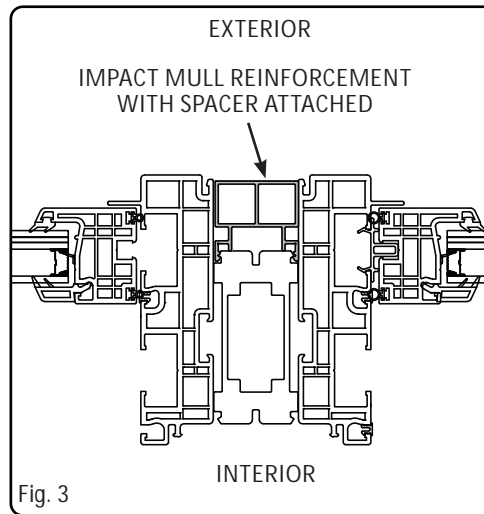

Fig. 3
- (Fig. 3) Align the frames with the impact reinforcement mull between them, positioned as shown in (Fig. 3). Clamp the units and mull together to hold the impact reinforcement mull in place.